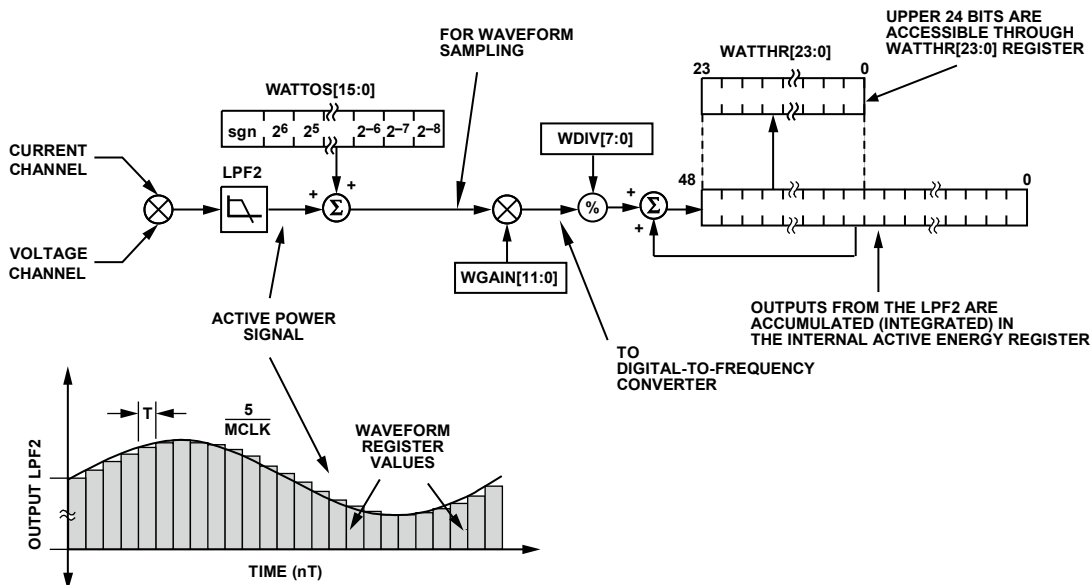

Figure 61. Active Energy Calculation
Figure 61 shows the signal processing chain for the active power calculation in the ADE5166/ADE5169. As explained previously, the active power is calculated by filtering the output of the multiplier with a low-pass filter. Note that, when reading the waveform samples from the output of LPF2, the gain of the active energy can be adjusted by using the multiplier and watt gain register (WGAIN[11:0], Address 0x1D). The gain is adjusted by writing a twos complement 12-bit word to the watt gain register. Equation 10 shows how the gain adjustment is related to the contents of the watt gain register.
The discrete time sample period (T) for the accumulation register in the ADE5166/ADE5169 is 1.22 μ s (5/MCLK). In addition to calculating the energy, this integration removes any sinusoidal components that may be in the active power signal. Figure 61 shows this discrete time integration or accumulation. The active power signal in the waveform register is continuously added to the internal active energy register.
The output of the multiplier is divided by the value in the WDIV register (Address 0x24). If the value in the WDIV register is equal to 0, the internal active energy register is divided by 1. WDIV is an 8-bit, unsigned register. After dividing by WDIV, the active energy is accumulated in a 49-bit internal energy accumulation register. The upper 24 bits of this register are accessible through a read to the active energy register (WATTHR[23:0], Address 0x01). A read to the RWATTHR register (Address 0x02) returns the contents of the WATTHR register, and the upper 24 bits of the internal register are cleared. As shown in Figure 61, the active power signal is accumulated in an internal 49-bit signed register. The active power signal can be read from the waveform register by setting the WAVMODE register (Address 0x0D) and setting the WFSM bit (Bit 5) in the Interrupt Enable 3 SFR (MIRQENH, Address 0xDB). Like the current and voltage channels waveform sampling modes, the waveform data is available at sample rates of 25.6 kSPS, 12.8 kSPS, 6.4 kSPS, and 3.2 kSPS.